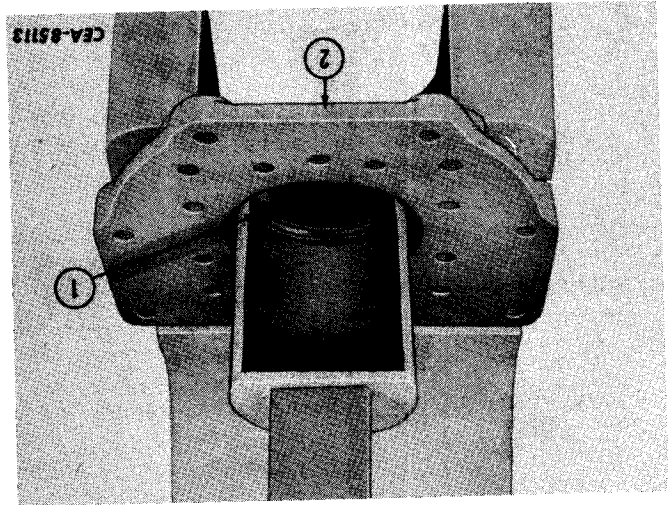

Figure 5-22
Press oil seal (1, Fig. 5-22) out of cover (2). Discard seal.